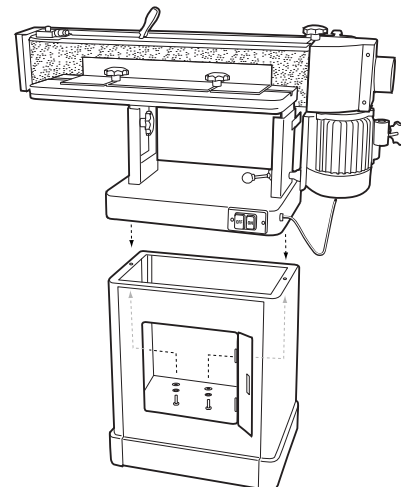

FIGURE 3
- 5/16 inch x 1 1/4 inch hex cap screws (2)
- 5/16 inch lock washers (2) 5/16 inch flat washers (2)
1. With the aid of another person, carefully lift the table assembly onto the cabinet and position it so that the two holes in the base of the table assembly align with the holes located on either end of the cabinet. See Figure 3.